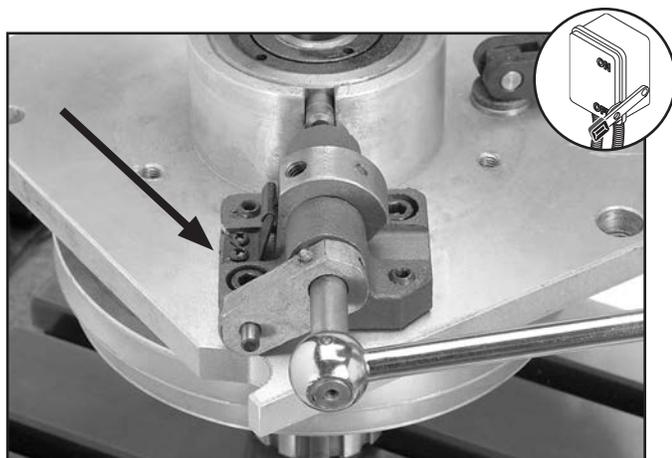

Figure 83. Spindle speed range lever assembly.
3. Separate the spindle speed range lever assembly from the transmission cover plate by removing the cap screws, then prying up on the assembly to disengage the taper pins (see **Figure 83**).